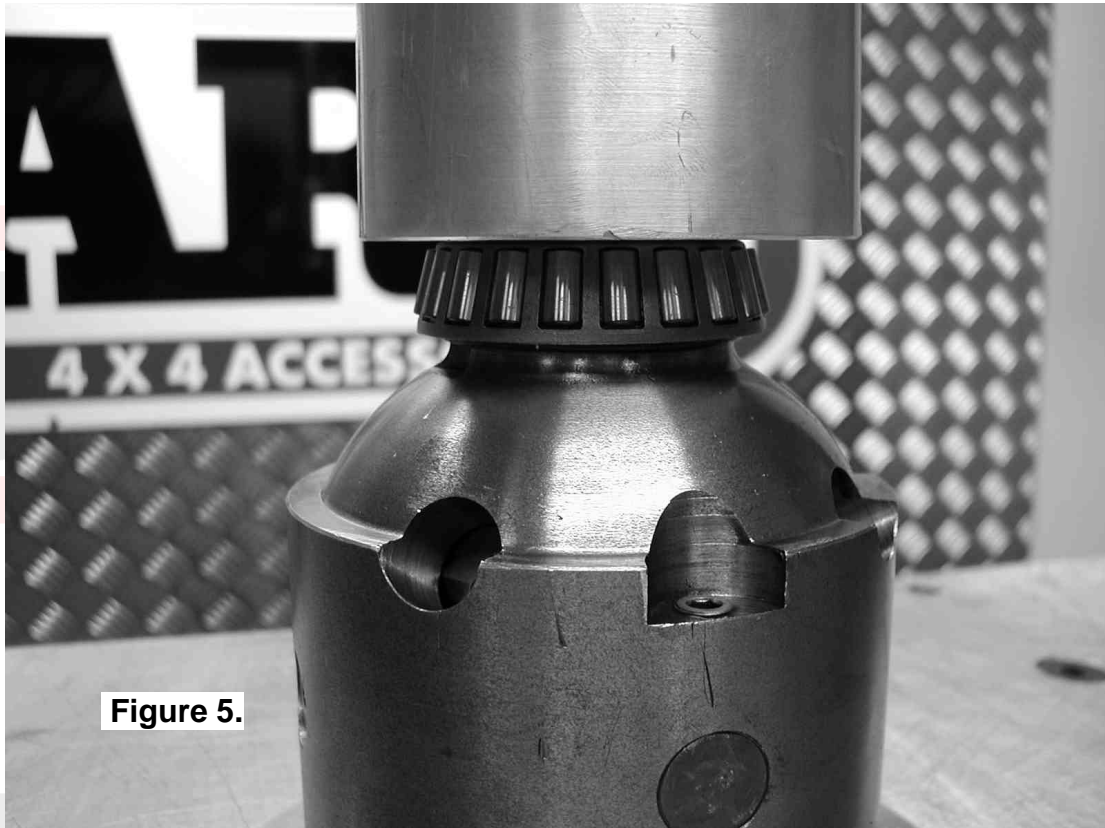

Figure 5.
- ☐ Using a bearing press or arbor press, press one of the bearing cones which was removed from the original differential onto the bearing journal (refer to Figure 5.) until the bearing seats firmly against the bearing journal shoulder.